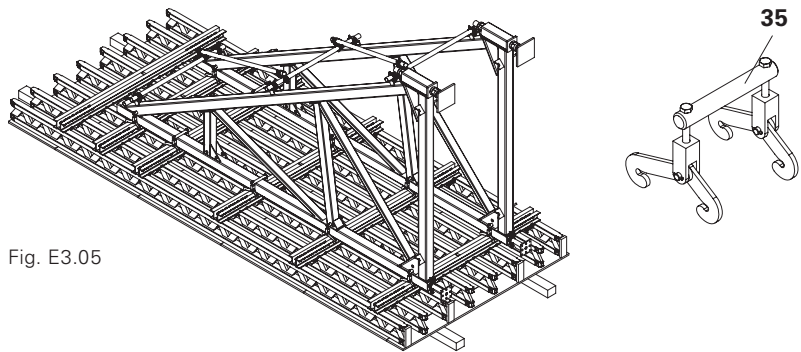

Fig. E3.05
5. Release Brace Frames one after the other from the formwork and set down with the crane. (Fig. E3.05 + E3.06)